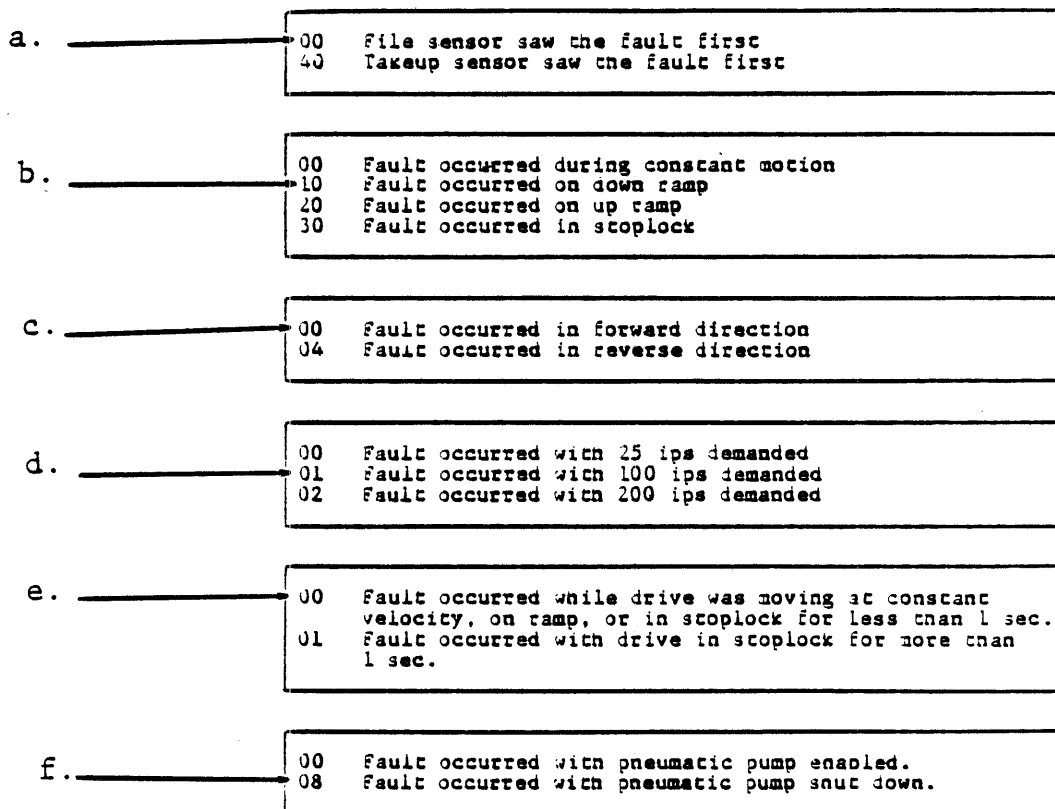

Figure 6-4. SUB-FAULT CODE INTERPRETATION - EXAMPLE 2
2. Example 2 - Fault Code 25, Sub-Fault Code 19 (Figure 6-4)